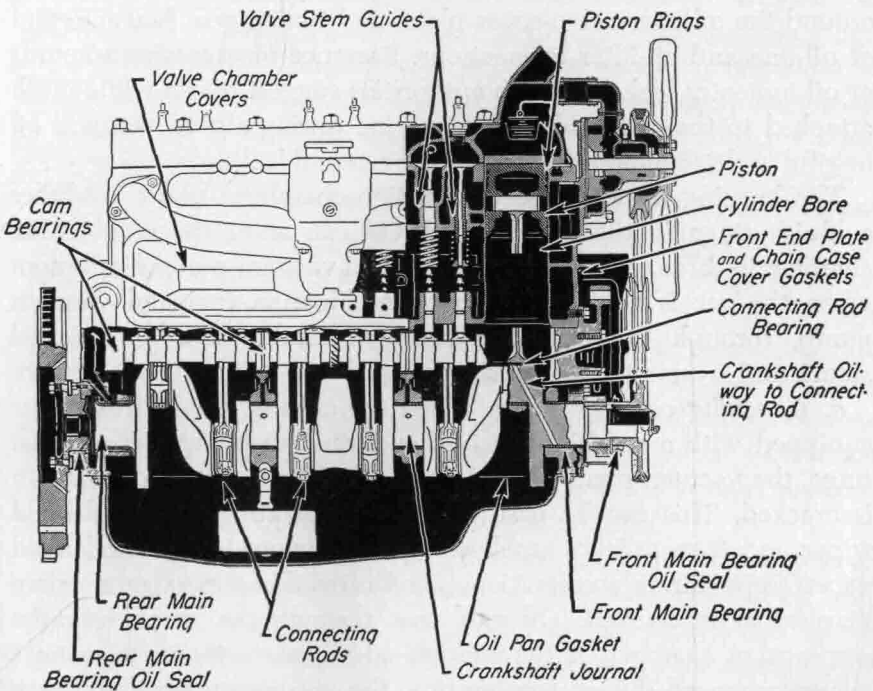

FIG. 12-2. Partial sectional view of engine showing points where oil may be lost. (Federal-Mogul Corporation)
1. *Excessive oil consumption.* Most lubricating-system troubles produce excessive oil consumption, the cause of which is not always easy to determine. As was explained in §215, oil is lost from the engine in three ways: by burning in the combustion chamber, by leaking in liquid form, and by passing out of the crankcase through the crankcase ventilating system in the form of vapor or mist. Figure 12-2 shows some of the places at which oil may be lost